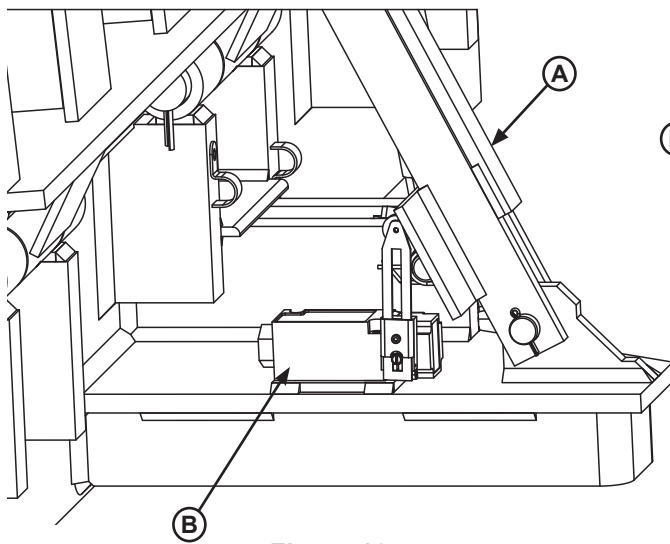

Figure 16
3. Remove the screws holding the stored limit switch (**B**) in place. Move the stored limit switch away from the storage prop. See Figure 16.